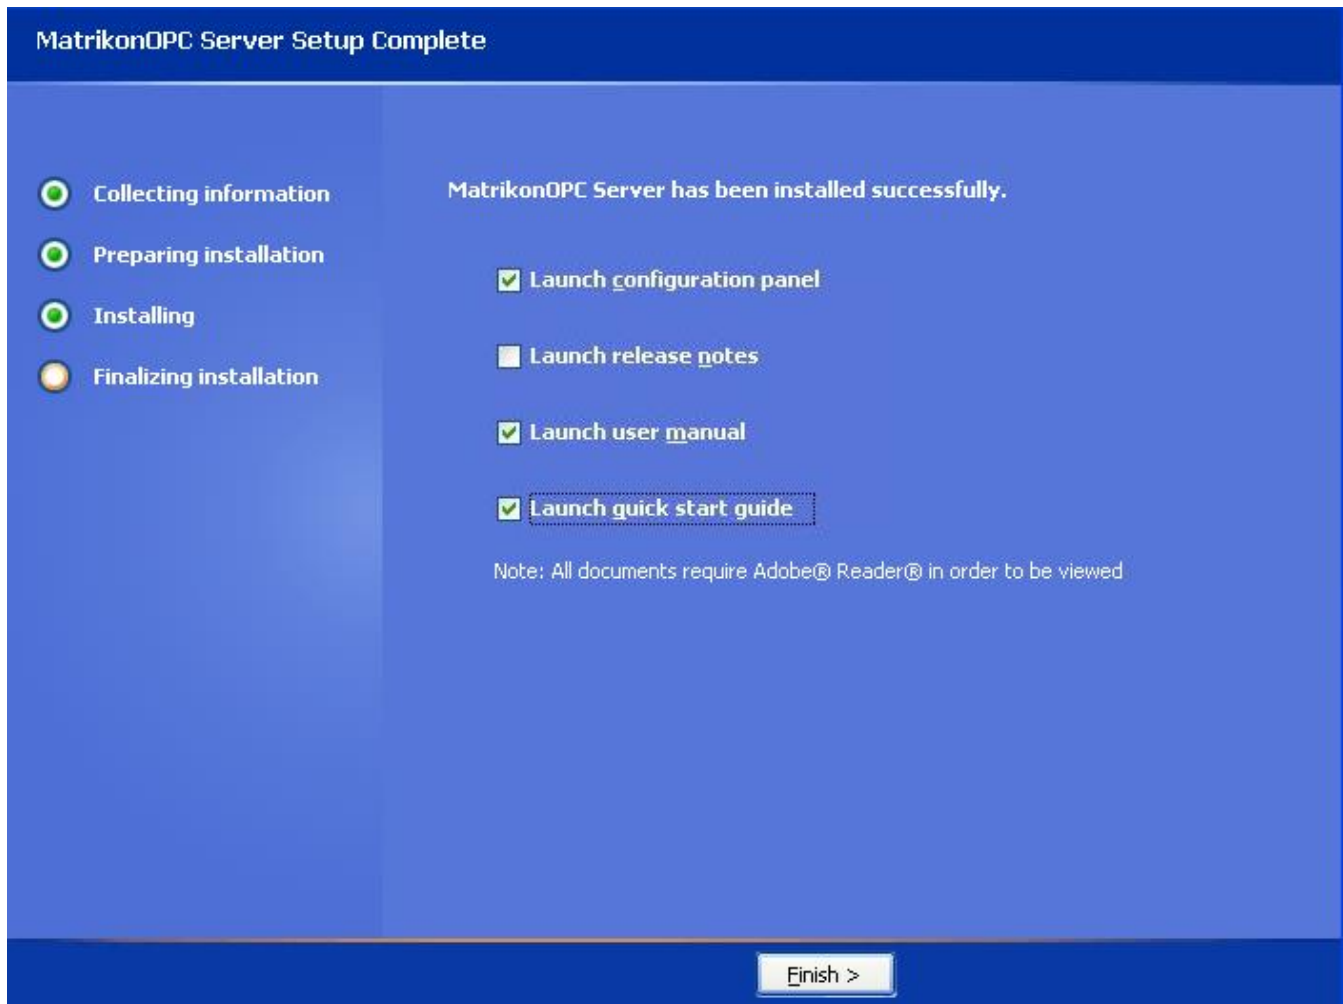

Figure 98 - MatrikonOPC Server Setup Complete Screen
20. When the installation has finished, the **MatrikonOPC Server for Modbus Setup Complete** screen (Figure 98) appears stating that the MatrikonOPC server has been successfully installed.